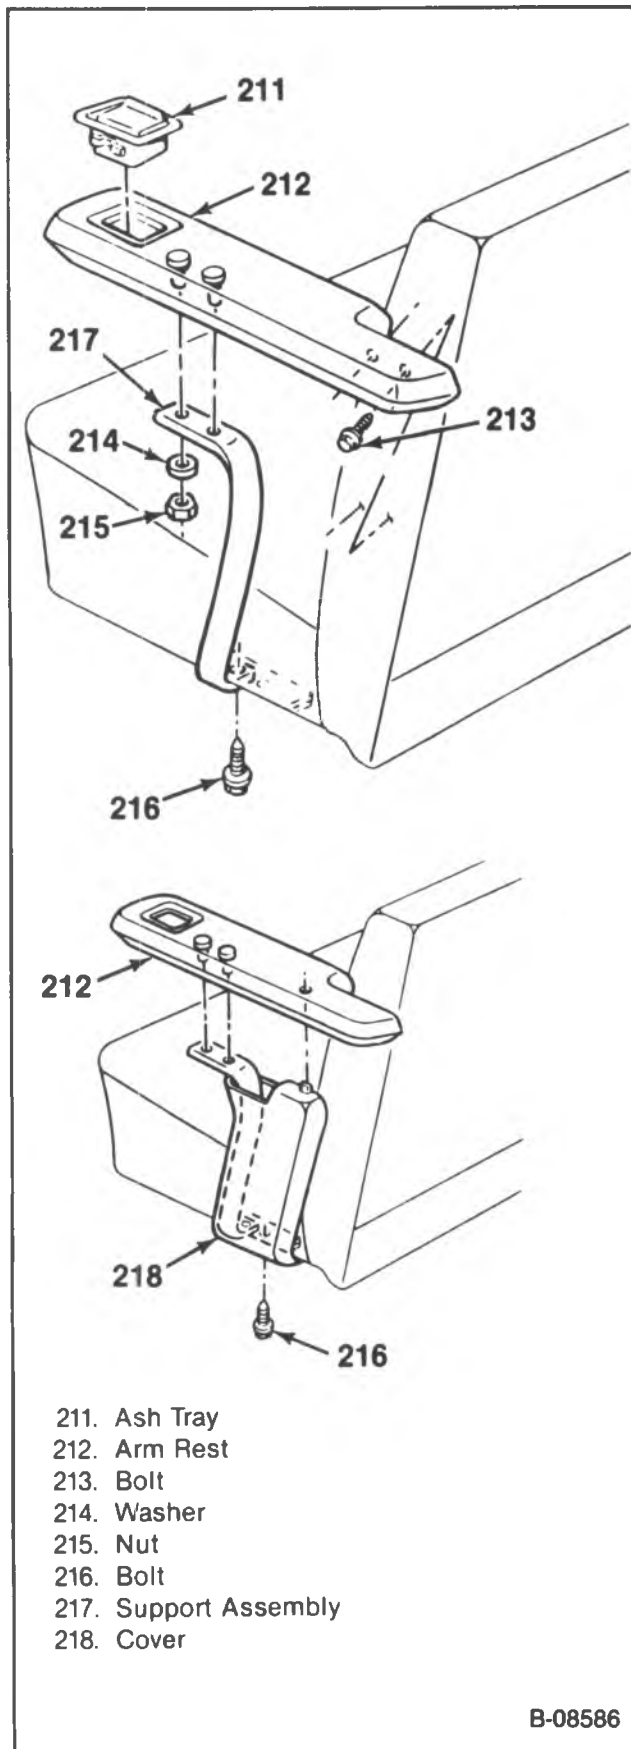

Figure 40 — Center Seat Armrest
**Remove or Disconnect (Figures 40 and 41)**
1. Armrest bracket (217) to seat bolts (216).
2. Armrest to seatback bolts (213).
3. Armrest cover (218) (if equipped).
4. Armrest bracket (217) to armrest nuts (215) and washers (214).
5. Armrest bracket (217) from the armrest (212).
**Install or Connect (Figures 40 and 41)**
1. Armrest bracket (217) to the armrest (212).
2. Armrest bracket (217) to armrest washers (214) and nuts (215).
4. Armrest to seatback bolts (213).
5. Armrest bracket (217) to seat bolts (216).